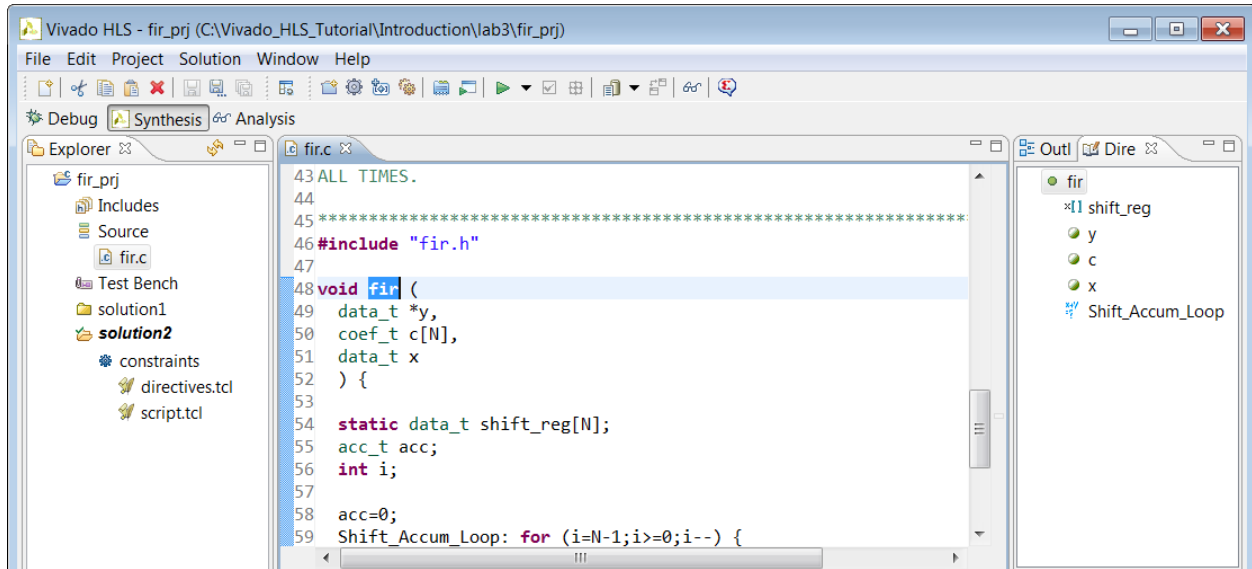

Figure 22: Opening the Directives Tab
4. In the **Explorer** pane, expand the **Source** container in `solution2` (as shown in Figure 22).
6. Activate the **Directives** tab in the Auxiliary pane and select the top-level function `fir` to jump to the top of the `fir` function in the source code view (Figure 22).
The Directives tab, shown on the right side of **Figure 22**, lists all of the objects in the design that can be optimized. In the Directives tab, you can add optimization directives to the design. You can view the Directives tab only when the source code is open in the Information pane.